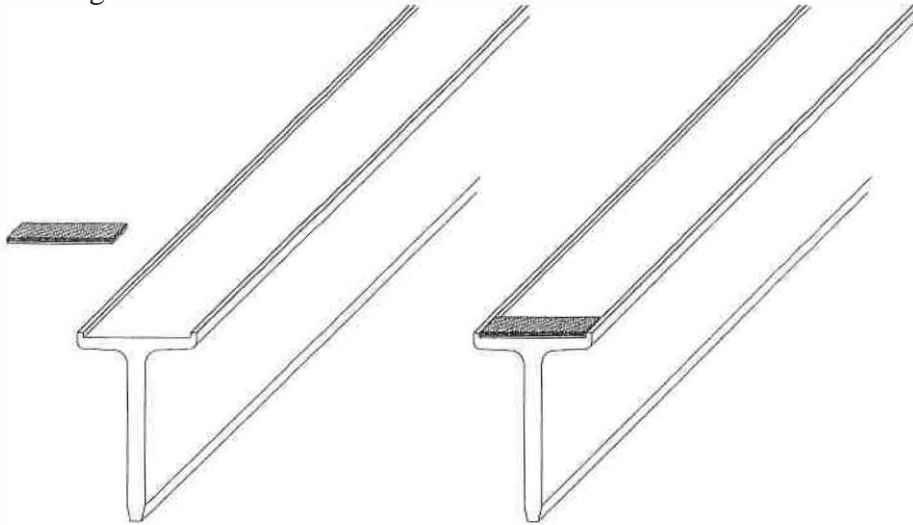

Figure 4
2. If your system is using Silvis Seals you must apply them to the Sanislope T's now. Orient the "T" as shown in Figure 4. Apply the end blocker by peeling off the backing strip and positioning the blocker at the end of the "T".